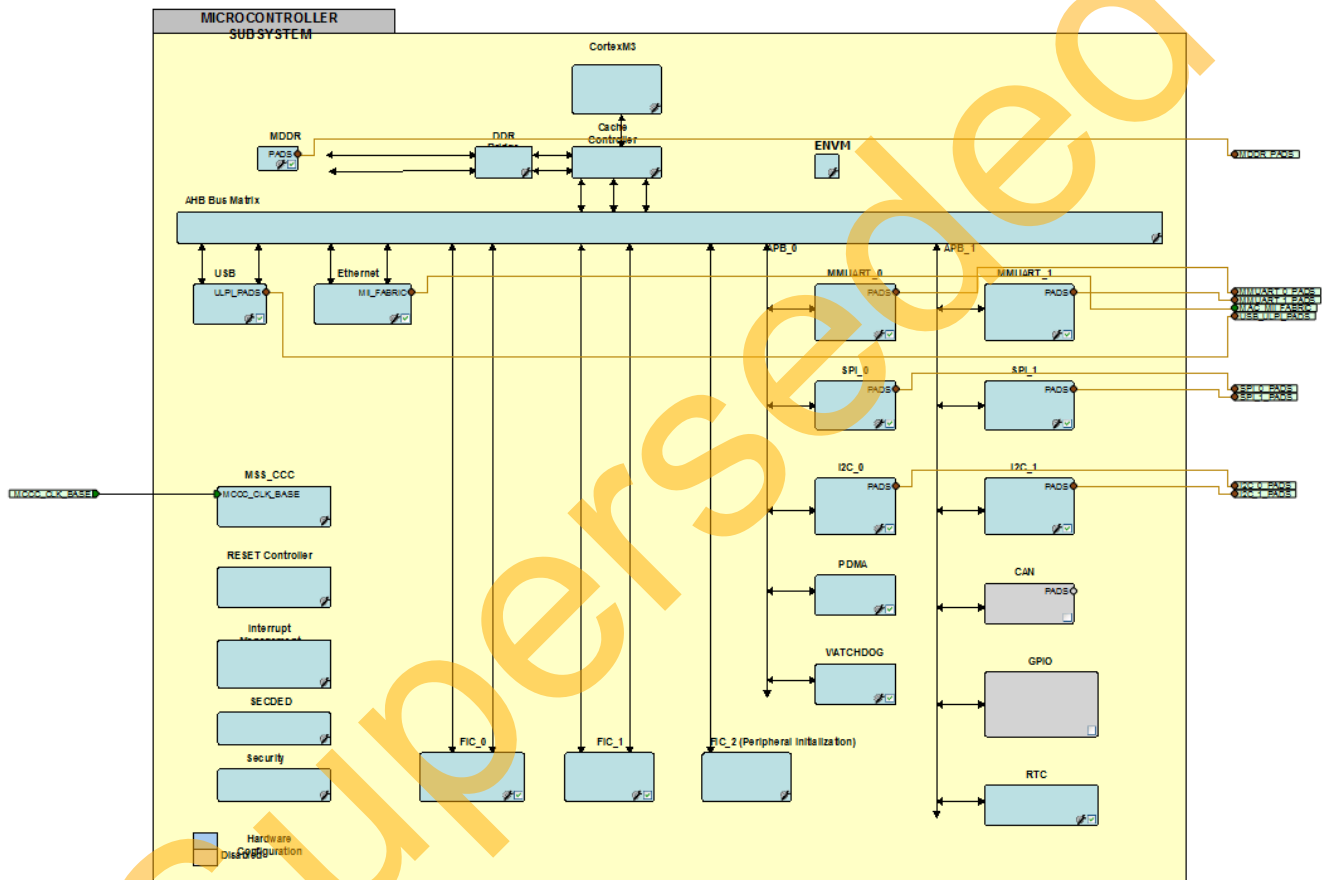

Figure 6. MSS in the SmartDesign Canvas
1. Double-click **Access_EXT_SDRAM_MSS_0** to configure the MSS. The MSS is displayed in the SmartDesign canvas in a new tab, as shown in Figure 6.